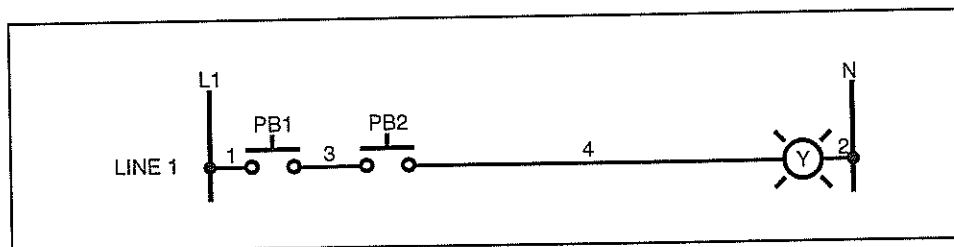

Figure 31. The AND Logic Circuit for Skill 6
- 2. Connect the AND logic circuit as shown in the ladder diagram in figure 31.